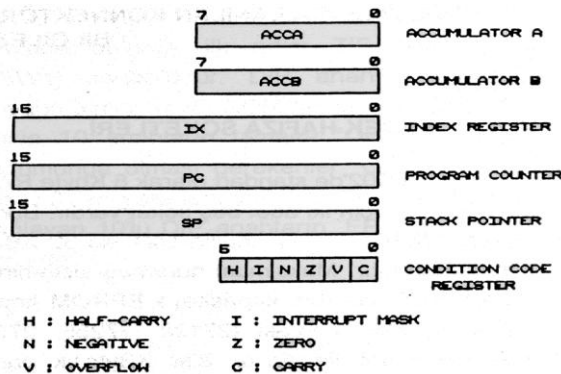

Figure 3.2 - Registers of the MC6802 Microprocessor
MC6802 Microprocessor has three 16-bit registers and three 8-bit registers available for use by the programmer (Figure 3.2).
**Condition Code Register:** It shows the conditions occurs as a result of an Arithmetic Logic Unit operation (Figure 3.2):
- Bit 0: carry from bit 7 of an arithmetic operation (C)
- Bit 1: Overflow flag (V)
- Bit 2: Zero flag (Z)
- Bit 3: Negative flag (N)
- Bit 4: Interrupt Mask (I)
- Bit 5: Half carry from bit 3 of an arithmetic operation (H)